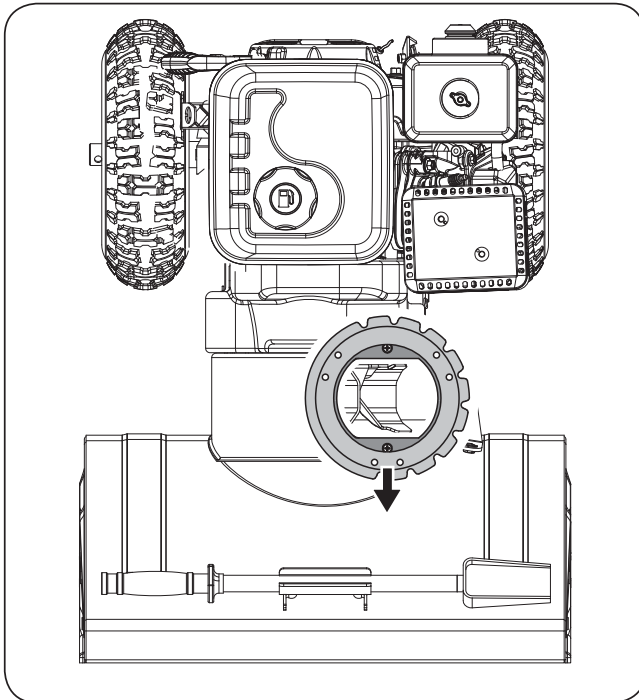

Figure 7a
1. Sit the chute crank flange on top of the impeller housing. Make sure the notched edge is on the left side and the pre-greased surface is on the bottom. (See Figure 7a)